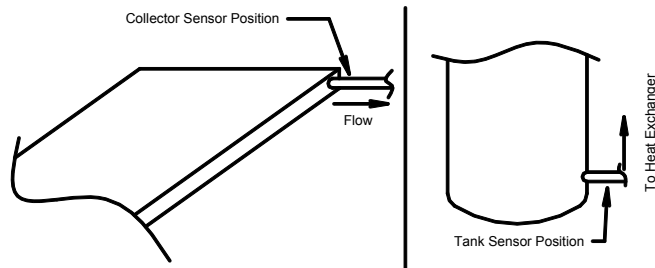

FIGURE 3. SENSOR POSITIONS
*See Sensor Positions in figure 3.